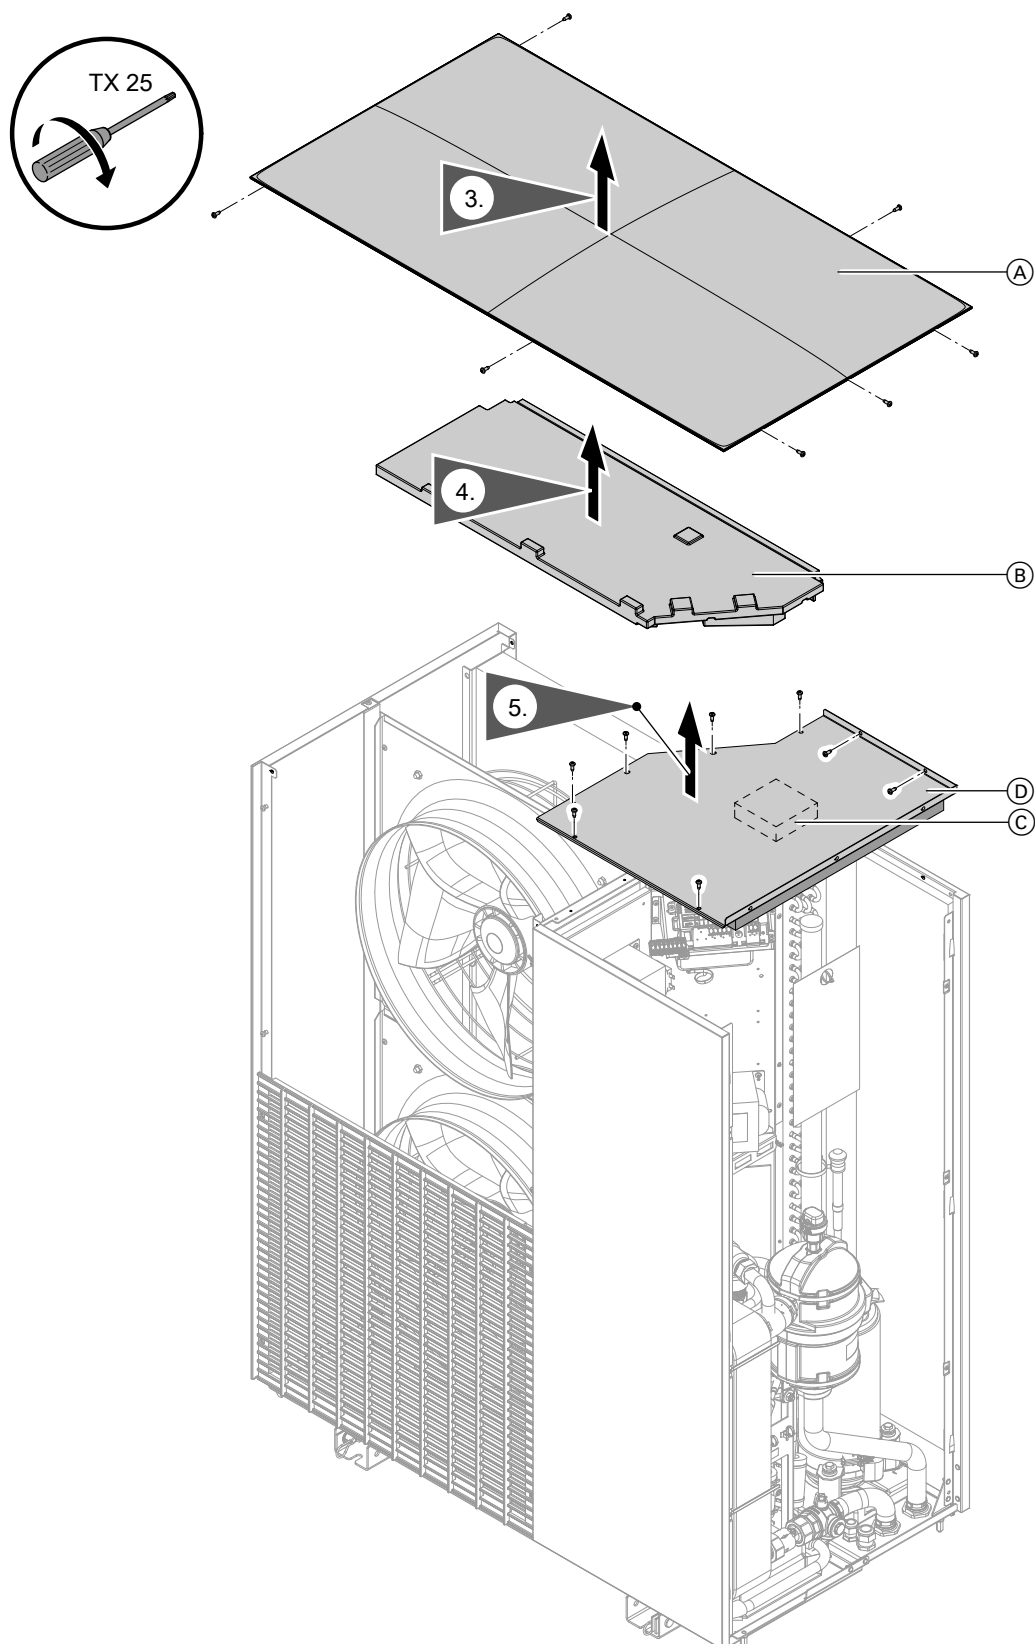

Fig. 89
4. Remove cover: See Fig. 89.
3. Remove cover: See Fig. 89.
2. Remove cover: See Fig. 89.